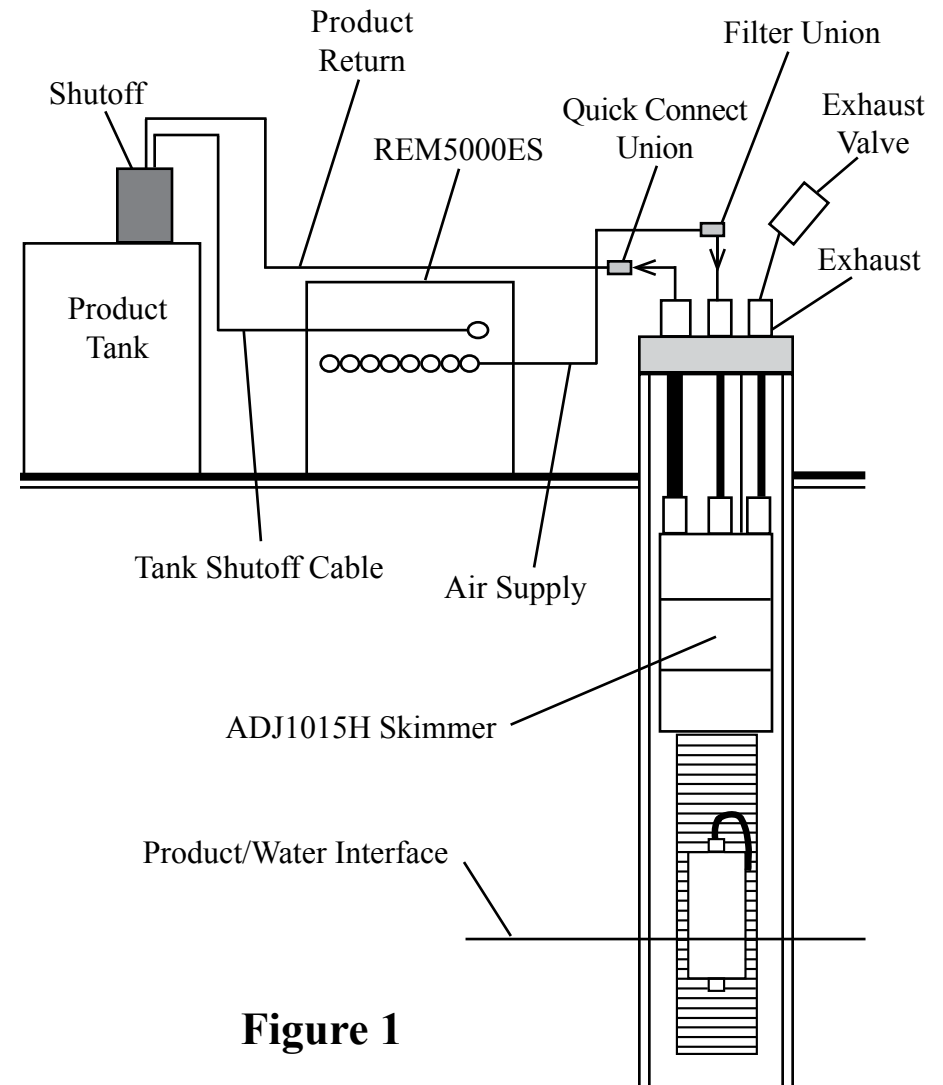
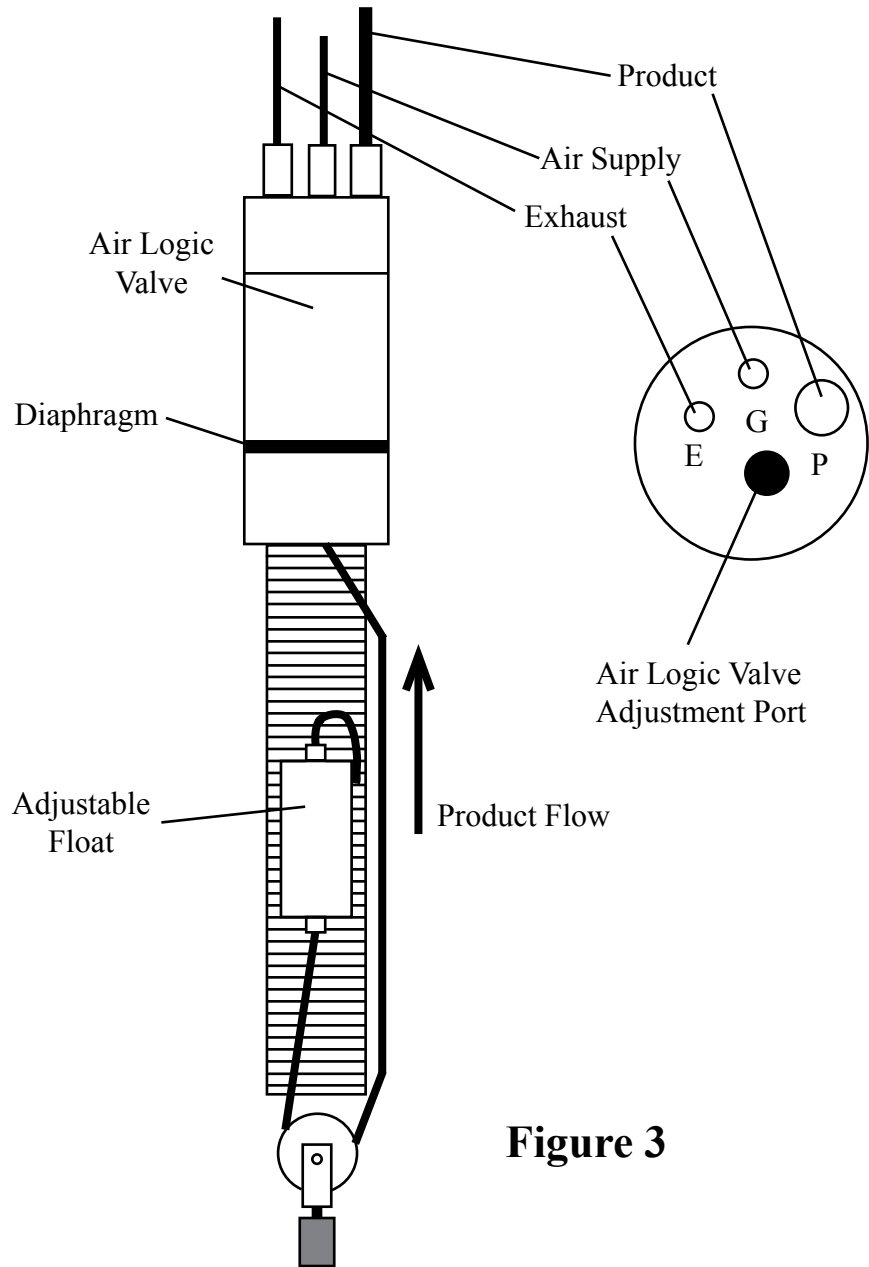

Figure 1
Figure 3
The system (Figure 1) relates to a heavy oil recovery system for wells four inches in diameter and larger. This system includes: an intrinsically safe ADJ1015H pneumatic Smart Skimmer, with an adjustable float (Figure 3), which removes heavy oil up to 200 feet deep; and a solar powered Control Station Model REM5000ES which operates up to 8 skimmers intermittently, records run time, and has a high level tank shutoff assembly.
STEP 2. Install holding tank shutoff assembly into holding tank (a 2" standard pipe inlet will be required in the holding tank). The level of product in the holding tank can be set by raising or lowering the liquid level float switch rod. Plug the high level shutoff switch cable connector into the left end of the controller (Figure 1).
STEP 6. Position the skimmer and well cap on the ground near the well. **NOTE:** If the skimmer is over 60 feet deep, use a vented design skimmer. Cut a length of 3/8" OD air supply tubing to cover the distance from the top of the well down to water/product interface, plus 5 feet. Slide enough tubing through the well cap and attach the end of the tubing to the top of the skimmer tube fitting labeled "G" (Figure 3). If the product thickness is greater than 1 foot, position the center of the skimmer screen 1 foot below top of product. If the product thickness is less than 1 foot, position the center of the skimmer screen at the water/product interface.
STEP 7. Cut a length of 1/2" OD product tubing same length as the air supply line. Install 1/2" OD product tubing through the well cap tube fitting labeled "P" (Figure 3). Slide enough tubing through the well cap and attach the end of the tubing to the top of the skimmer tube fitting labeled "P". **CAUTION:** Do not kink the tubing.